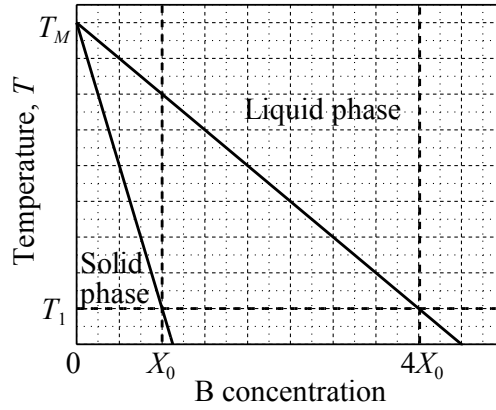

Figure 1 Partial phase diagram of the A-B binary system.
1. Consider the solidification process during cooling of A-B alloy containing the dilute concentration of B,  $X_0$ , from its uniformly melted state. Figure 1 shows the partial phase diagram of the A-B binary system. The melting point of A is  $T_M$  and the solidus temperature of the A-B alloy containing  $X_0$  of B is  $T_1$ .